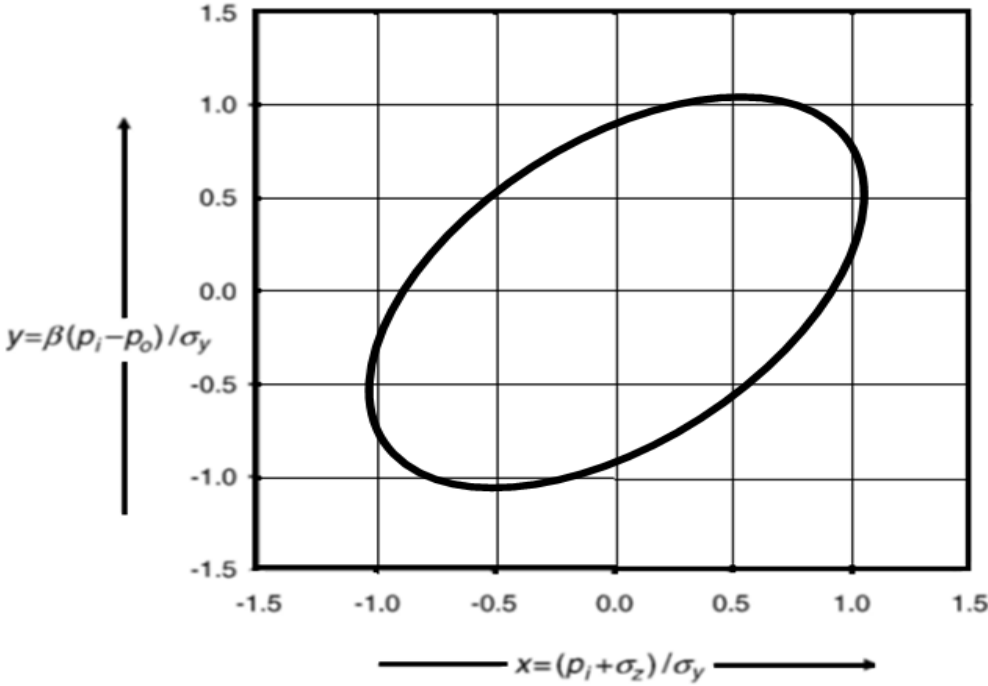

Figure VII.1: Failure envelope for Tubing
Figure VII.1 shows the failure envelop for a given design factor (DF) of the tubing whose loadings are shown in Table VII.2. The loading are internal pressure,  $P_i$ , outer pressure,  $P_o$  and axial stress,  $\sigma_a$ . The yield strength of the tubing is  $\sigma_y$ . The geometrical factor is represented by Greek letter,  $\beta$
- A. Calculate the SF or (DF)?